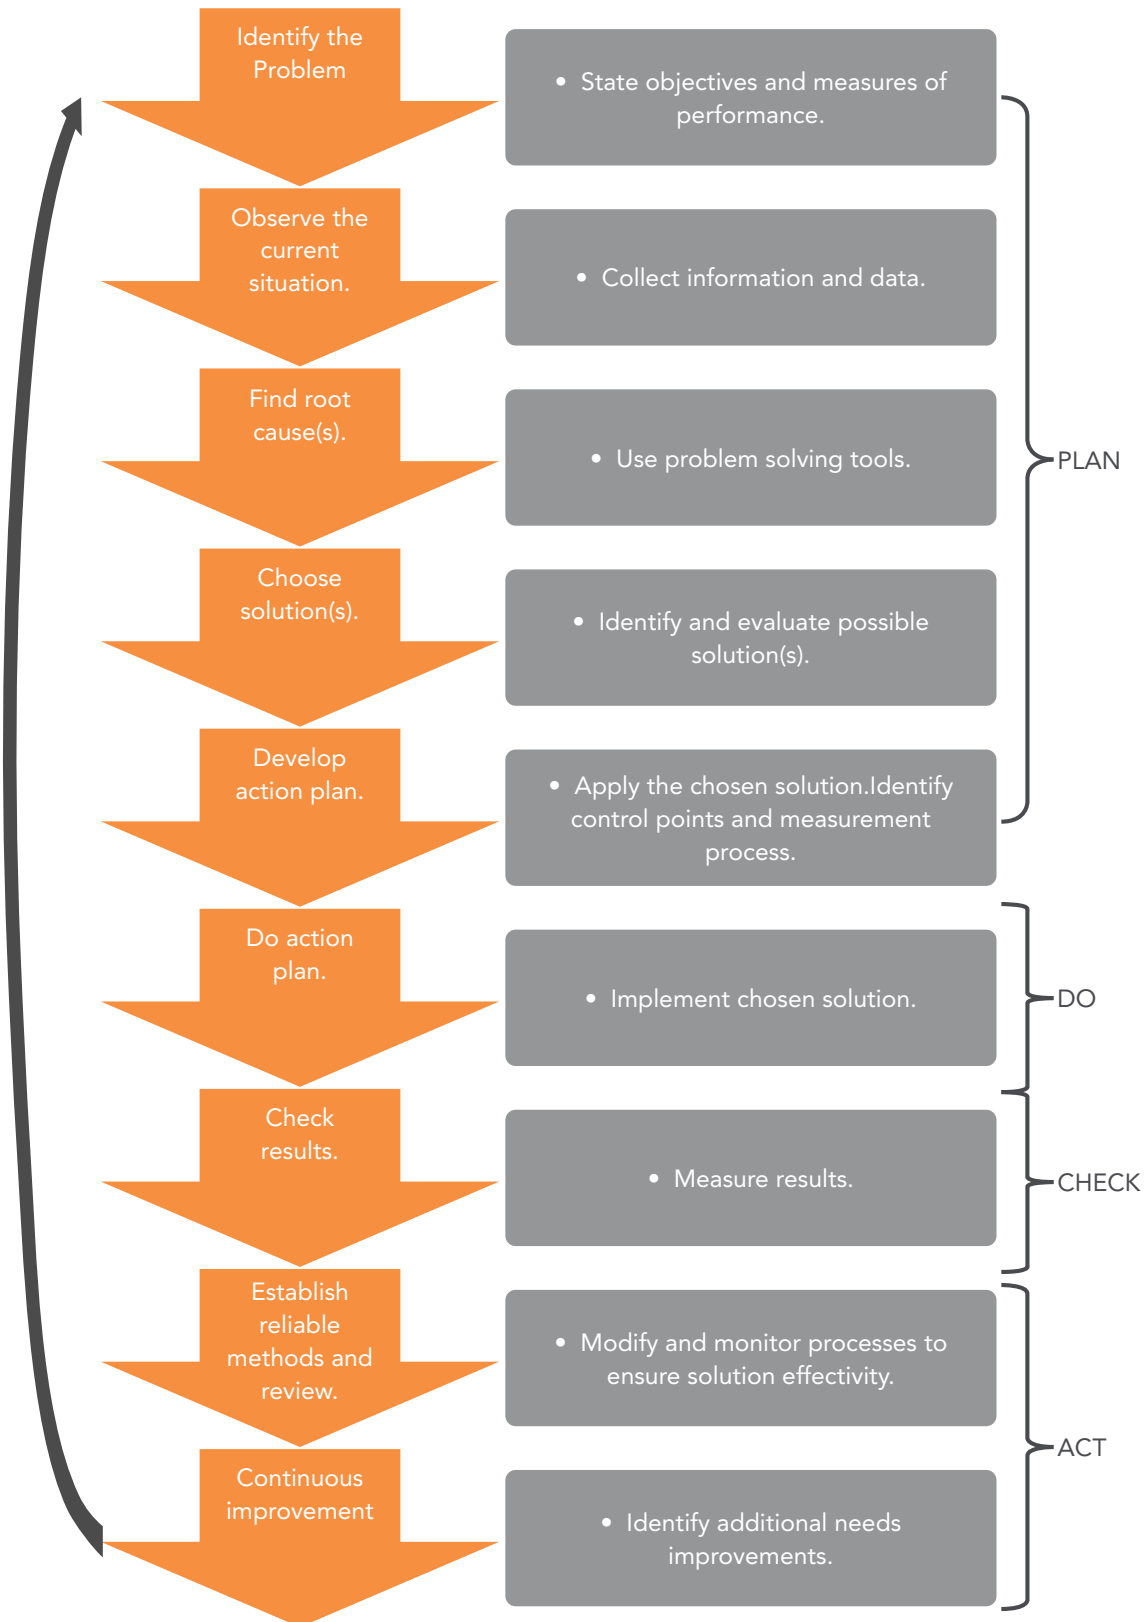
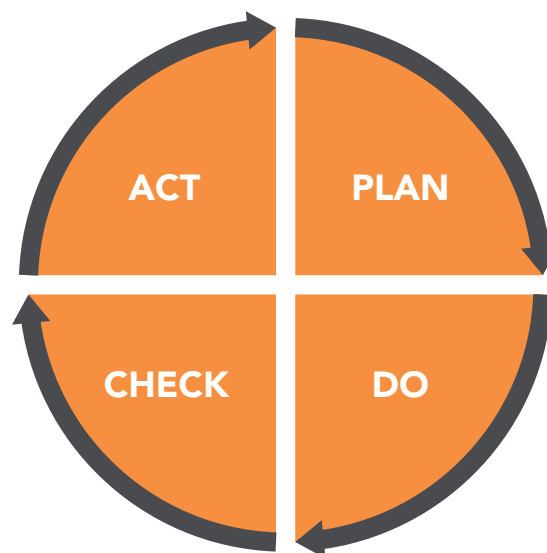

Figure 3.4a Basic Problem Solving Process Flow
Figure 3.5a PDCA Cycle
Figure 3.4a depicts what a basic problem-solving process looks like. First it requires the identification of the need for a problem-solving process, that is, through actual results and comparing to the objectives. The need can arise from a problem to be improved or an improvement initiative to be done. Through further studying of the given situation and data collection, root causes can then be identified and systematically selected. With causes identified, we can now devise particular solutions so that the problem identified or improvement initiated can be addressed. We will develop at least three (3) significant alternatives for our solutions and will implement what is doable based on the consensus of the team. After the implementation, we need to check whether the solution implemented is producing the results expected and/or favoring the favorable outcome or otherwise. In this case that it is not bearing what is required; a need to implement another feasible solution will be done. After the optimal solution is implemented, we need to establish control and review/audit measures for the implemented solution. Improvement is a continuous process that is why we must review regularly the results of our operations thru the use of Key Performance Indexes (KPI).
The **Plan-Do-Check-Act (PDCA)** cycle is a systematic approach and discipline to problem solving and continuous improvement. It is often conceptually drawn as a wheel showing the feedback nature of the process as shown in **Figure 3.5a**. The specific steps that can be drawn into the cycle are depicted on the **Figure 3.4a**.